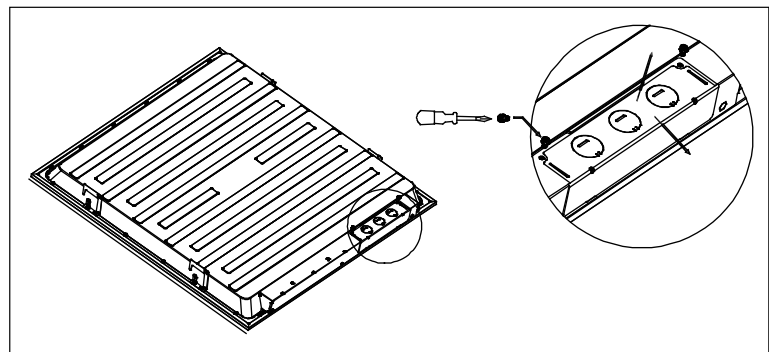

Figure 1.
3. Locate fixture junction box cover and remove it (Fig. 1).
NOTE: Fixture weights are below. Ensure grid location is rated for fixture weight before moving to next step. If unsure use cable to support fixture to structure above fixture using the holes in the alignment clips. (Fig 1).